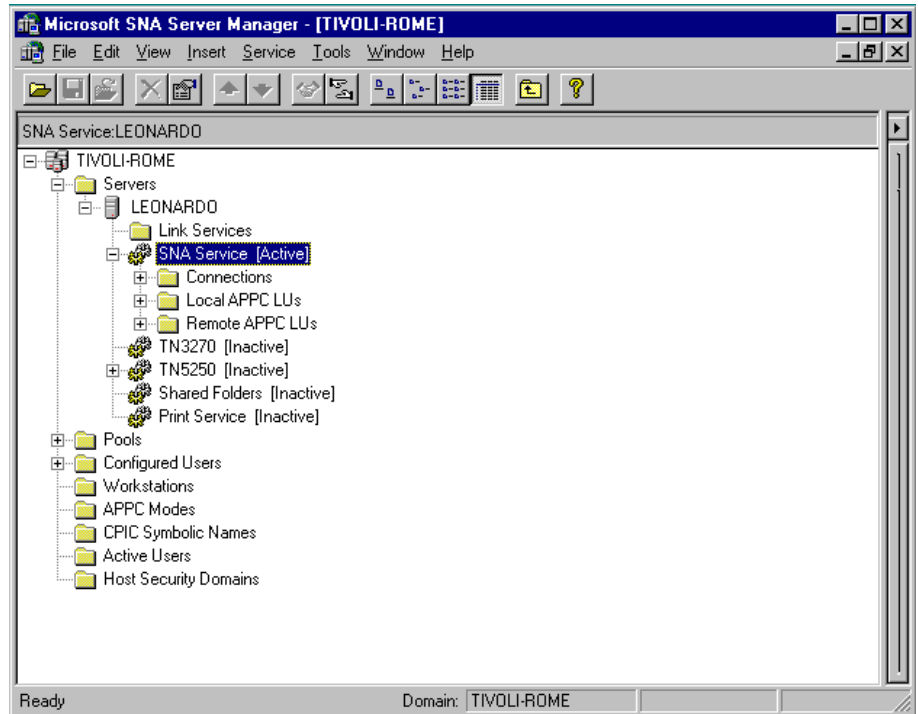

Figure 41. Selecting SNA service
- 3 Click the plus sign next to the server to expand the list and select **SNA Service**, as shown in Figure 41 on page 119.